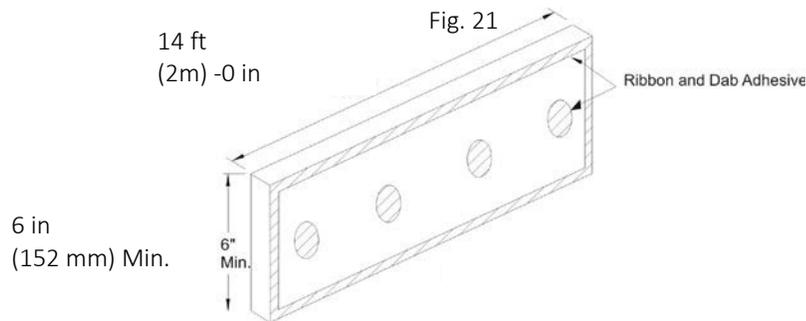

Fig. 23
8. Tops of walls, sills of continuous windows and other horizontal system terminations are terminated using 6 in or 12 in x 48 in (152 mm or 305 mm x 1.2 m) closure blocks. These are adhered to Backstop NT using a ribbon and dab adhesive pattern as shown in the Figure 23.